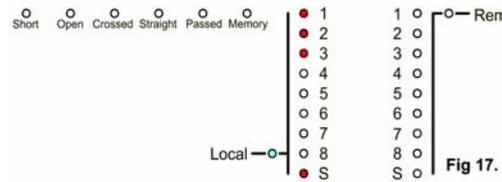

Fig 17.
1. Once again at the 'local' screen LED on position press and hold until the MEMORY LED lights (Fig17).